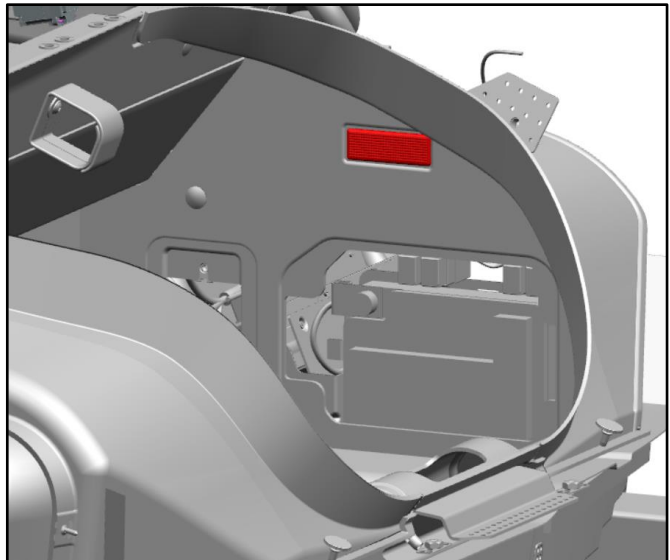

Figure 4
8. Release the luggage compartment light from the side panel of the luggage compartment to get access to the electrical connection. (Refer to Figure 4.)